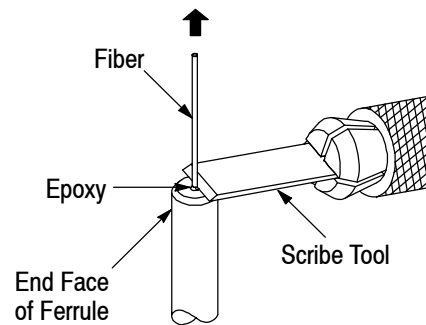

Figure 15
- 1. Using Sapphire Scribe Tool 504064-1 or similar scribe tool, gently brush the tool blade across the fiber at a 3 to 5° angle (about the diameter of one fiber from the ferrule surface). See Figure 15. Do not apply force on the fiber with the blade while scribing since excessive force may fracture the fiber making the connector useless.